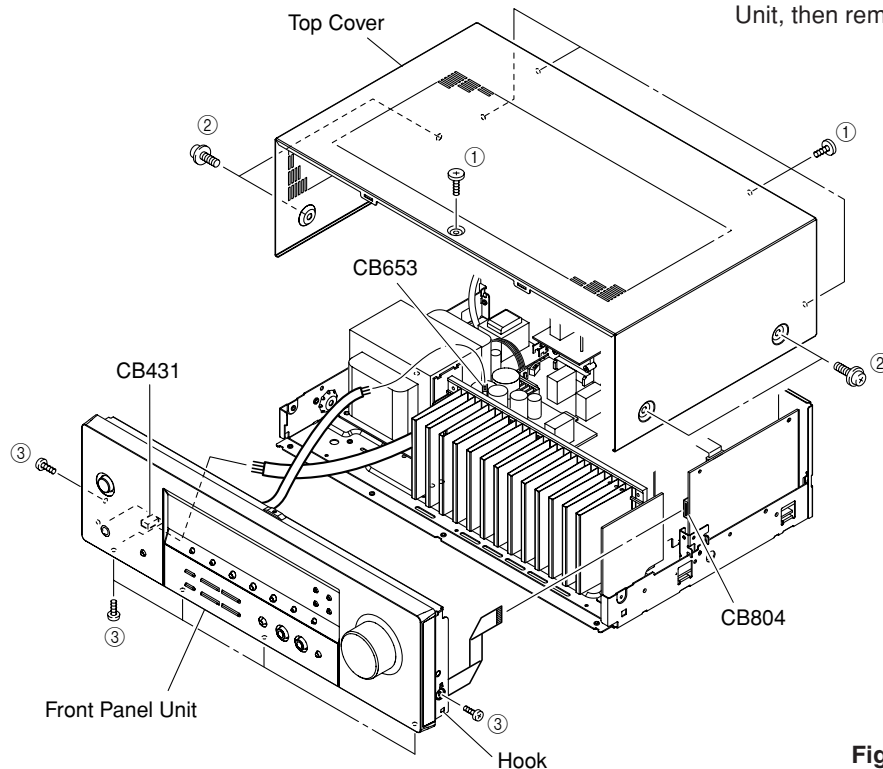

Fig. 1
- a. Remove 5 screws (①) and 4 screws (②). (Fig. 1)
- b. Slide the Top Cover rearward to remove it. (Fig. 1)
- b. Remove CB431, CB653 and CB804. (Fig. 1)
- c. Remove 6 screws (③). (Fig. 1)
- d. Release a hook on the right side of the Front Panel Unit, then remove the Front Panel Unit forward. (Fig. 1)